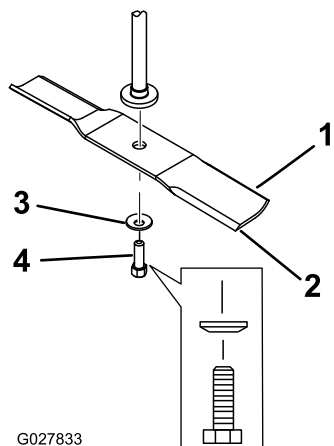

Figure 64
2. Remove the blade bolt, curved washer, and blade from the spindle shaft (Figure 64).
1. Install the blade onto the spindle shaft (Figure 64).
2. Install the curved washer (cupped side toward the blade) and the blade bolt (Figure 64).